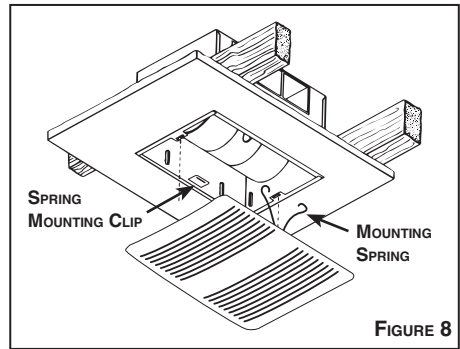

FIGURE 8
1. Refer to Figure 8. Squeeze grille mounting springs and insert into slots in the housing.